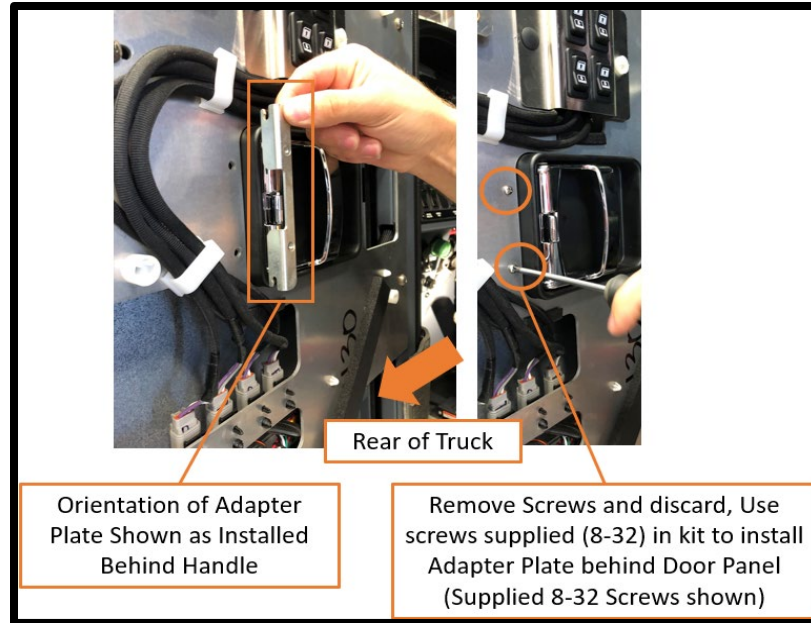

Figure 3
8. Mount cable retainer for door handle to inside using the supplied 8-32 screws (Figure 3).